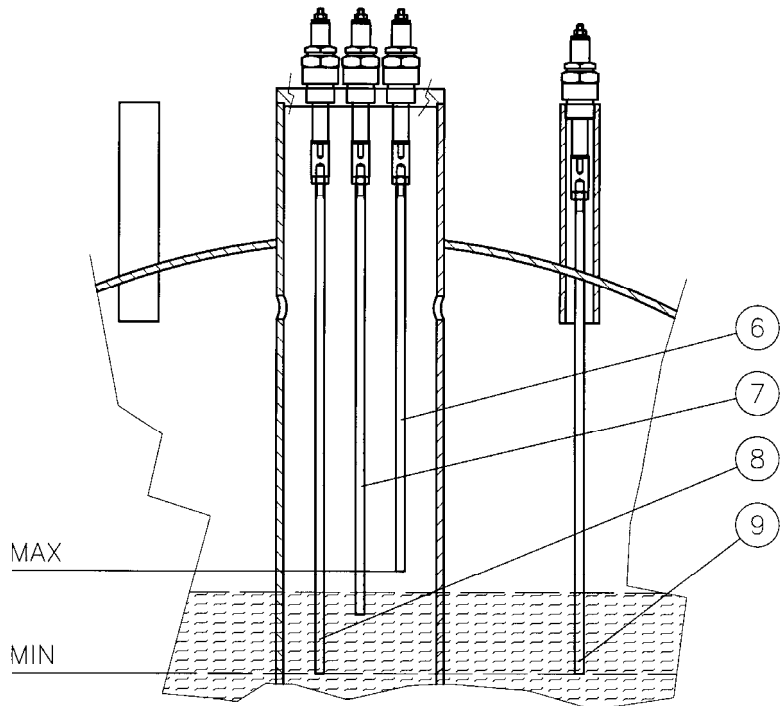

Fig. 7
2.2.2 Automatic level regulator and water level limits (Fig. 7)